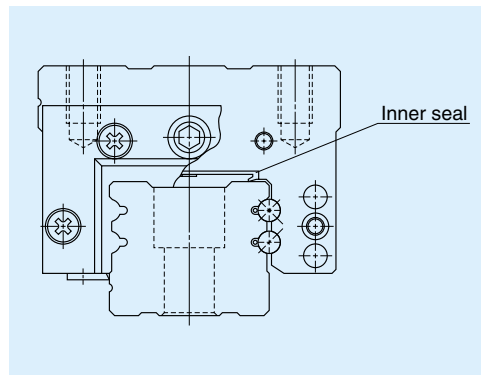

Fig. II-5•8 Inner seal when installed
(4) Inner seal
- The end seal installed on both ends of the ball slide cannot arrest entire foreign matters, though the missed amount is negligible. An inner seal protects the ball contact surface from such foreign matters which entered inside the ball slide (Fig. II-5•8).